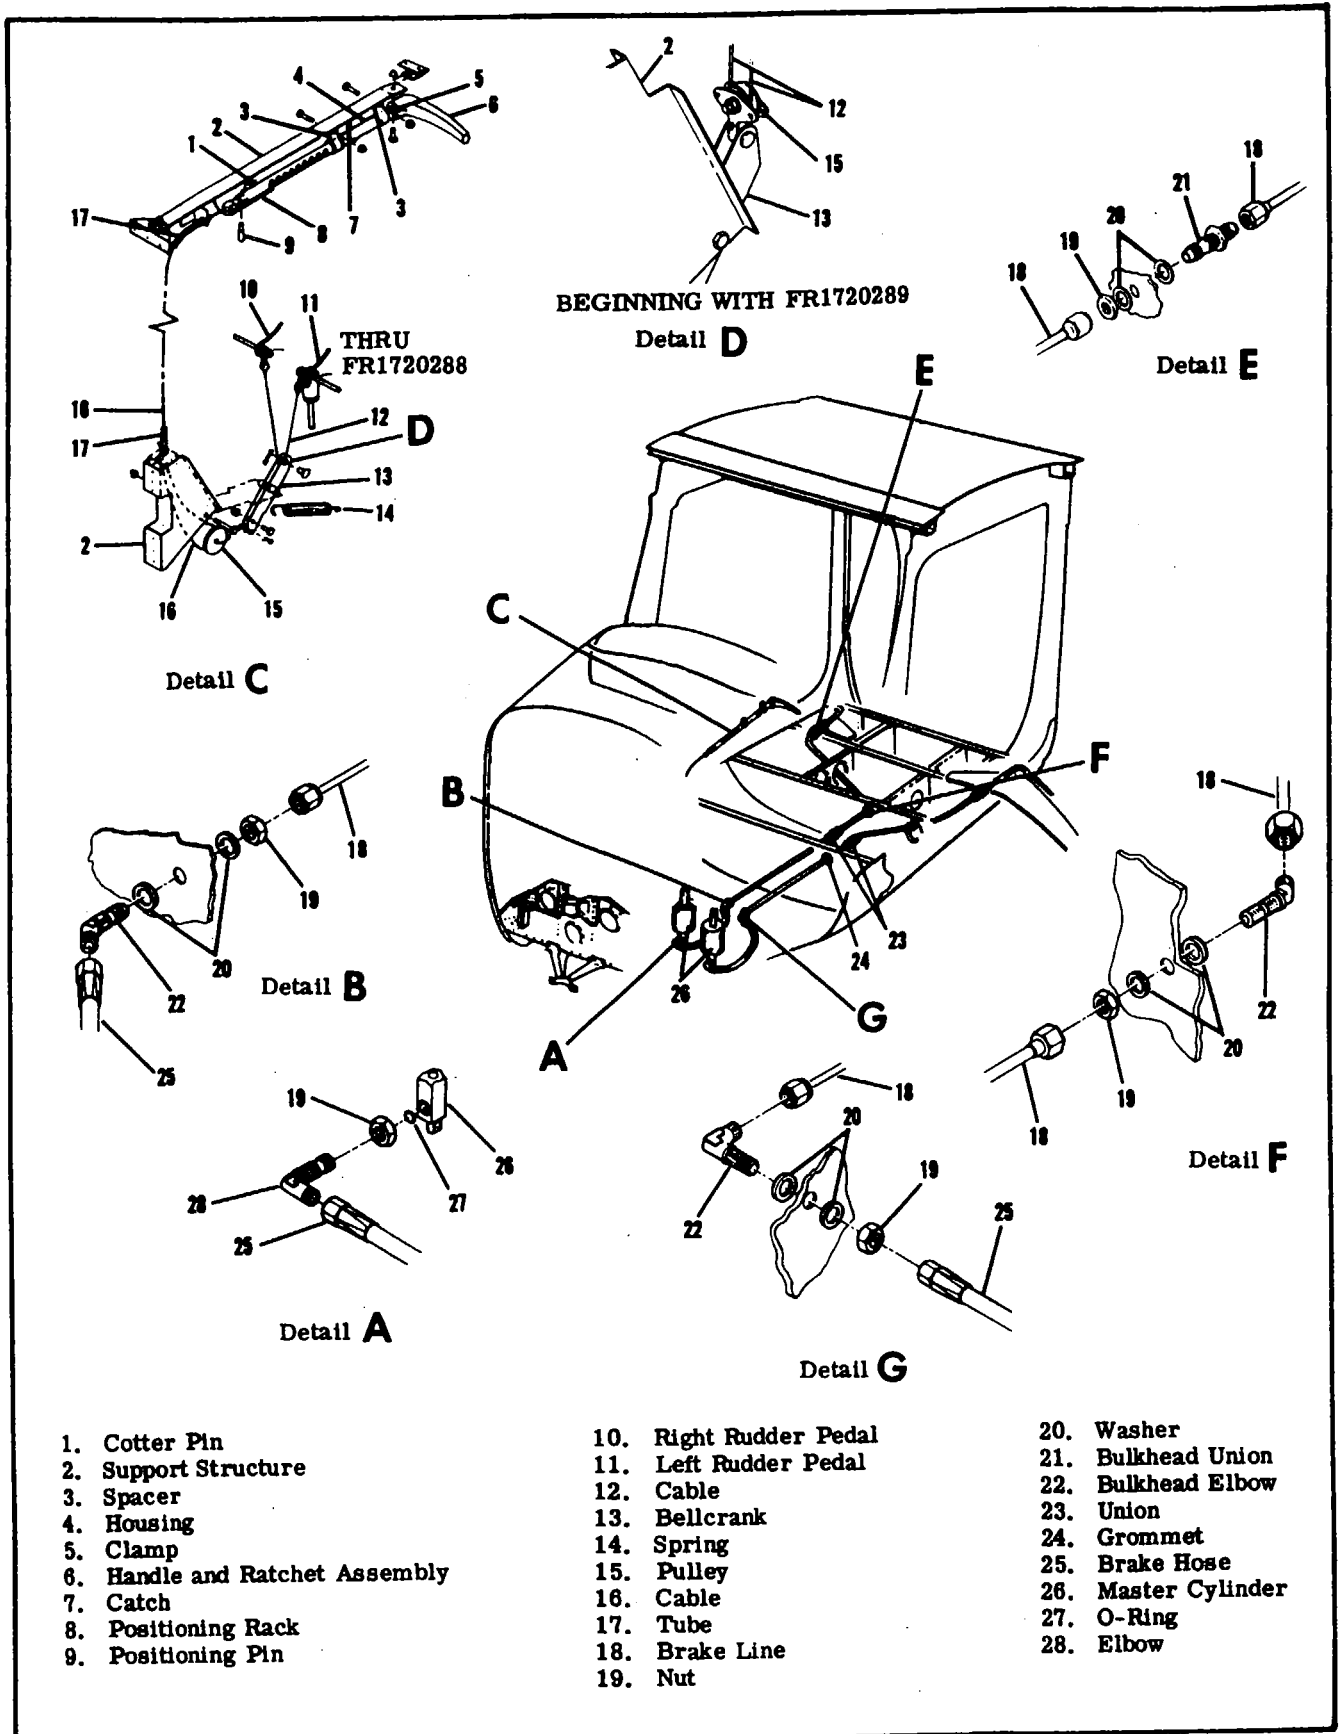

Figure 5-13. Parking Brake System
**5-52. PARKING BRAKE SYSTEM.** (See figure 5-13.)